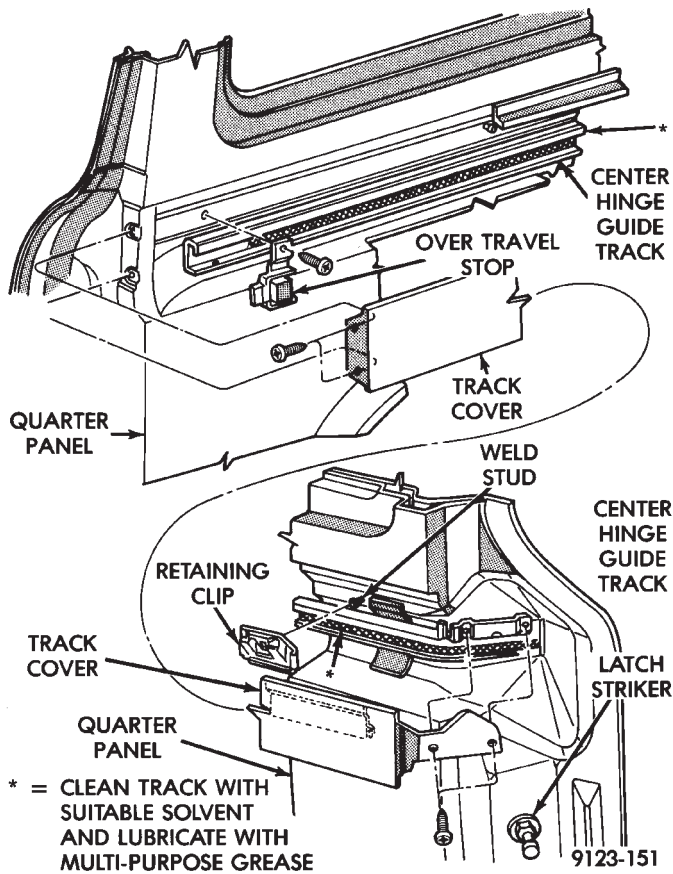

Fig. 24 Sliding Door Center Track Cover and Over Travel Stop
REMOVAL (FIG. 24)
- (1) Remove sliding door center hinge track cover.
- (2) Remove screw holding over travel stop to center hinge track (Fig. 24).
- (3) Remove sliding door trim panel.
- (4) Mark hinge location on sliding door for reference points when installing.
- (5) Support Sliding door on a suitable lifting device.
- (6) Remove bolts holding center hinge to sliding door.
- (7) Separate hinge from door.
- (8) Slide hinge rollers from open end of channel at rear of quarter panel.